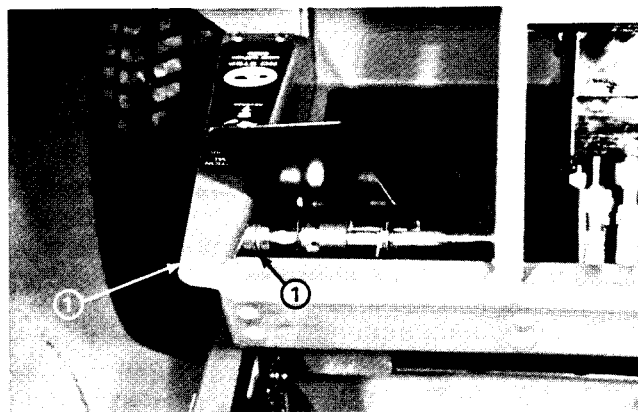

Figure 19
1. Loosen the two hex nuts securing the right-hand side of the traction pedal shaft to the frame (Fig 19).